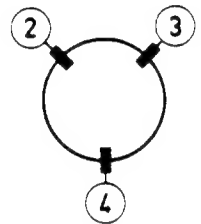

Fig. 4d
The dynamic convergence is achieved by tilting the deflection unit vertically and horizontally. In order to fix the deflection unit in the right position, three rubber wedges are fitted between the glass of the picture tube cone and the deflection unit, as shown in fig. 4d or 5d. Two wedge thicknesses are available, one 7 mm thick, code number 4822 462 40356 and the other 11 mm thick, code number 4822 462 40357.
- Remove wedge ① so that the situation according to figure 4d or 5d arises.